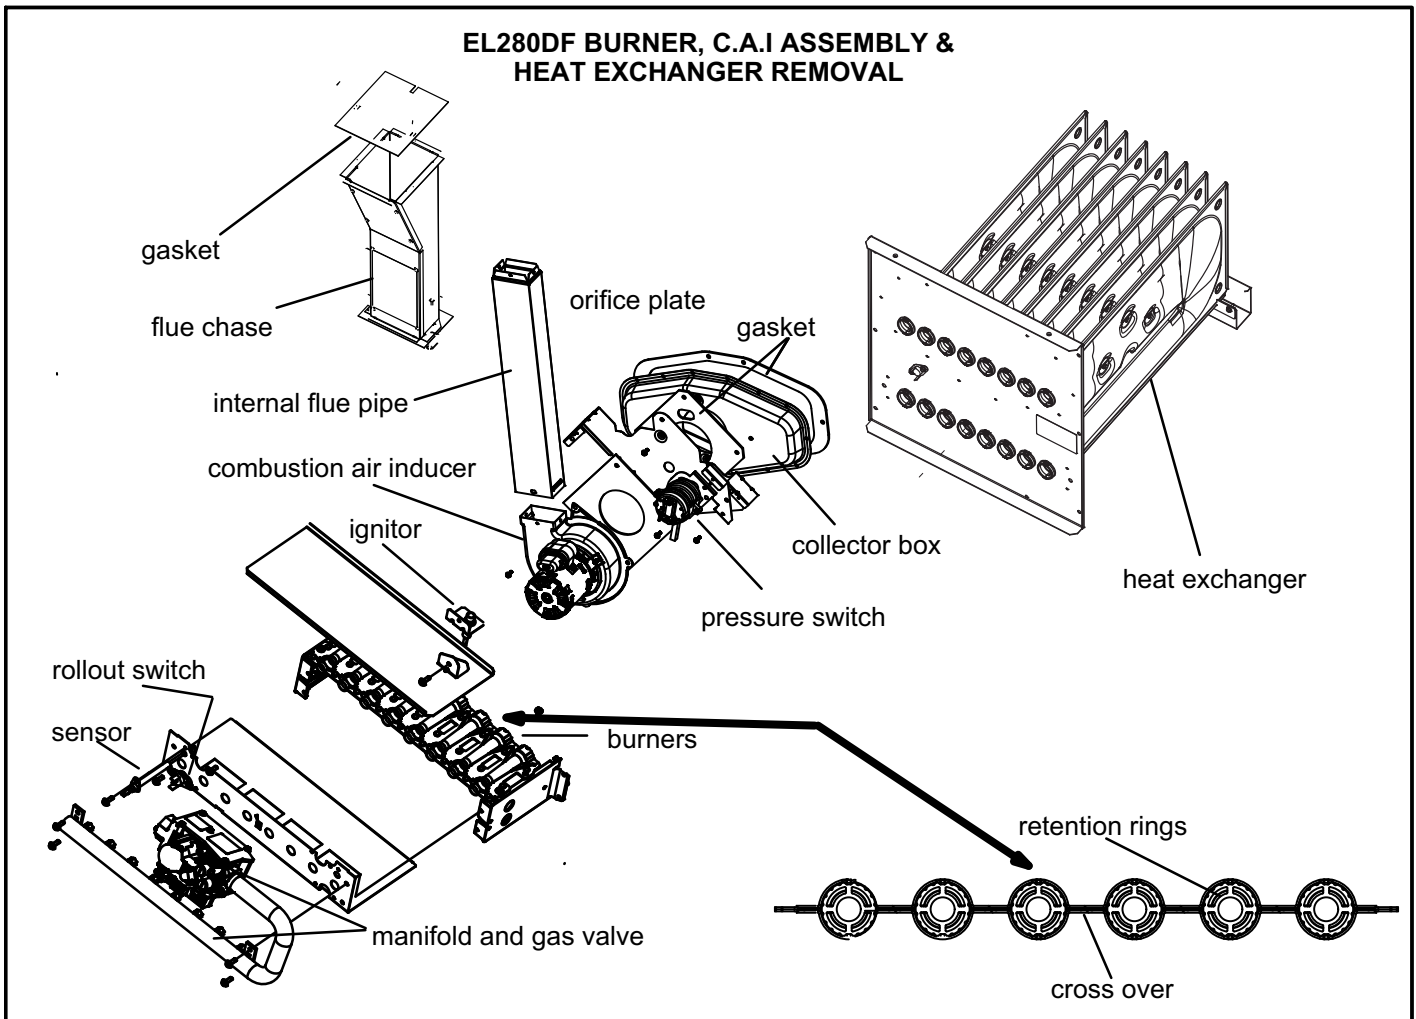

FIGURE 15
- 11- To clean burners, run a vacuum cleaner with a soft brush attachment over the face of burners. Visually inspect inside the burners and crossovers for any blockage caused by foreign matter. Remove any blockage. Figure 15 shows burner detail.